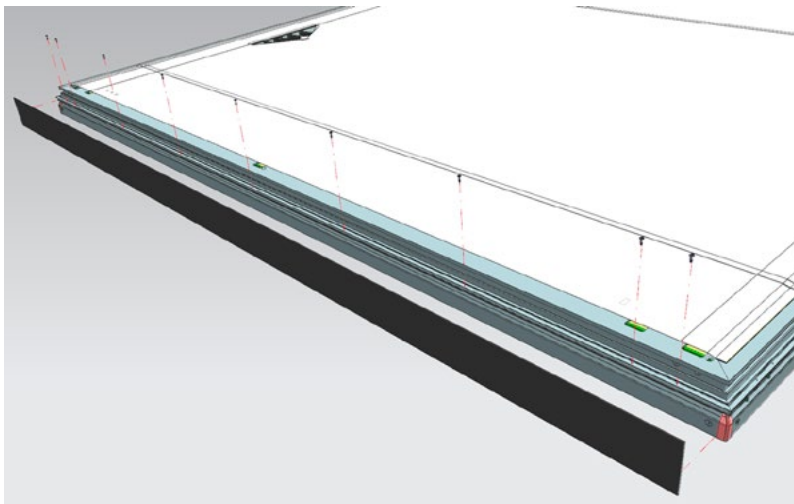

Figure 19: Place pieces labelled 1.
- Start by placing the pieces labeled (1) on the short sides of the luminous ceiling panel, see Figure 19.